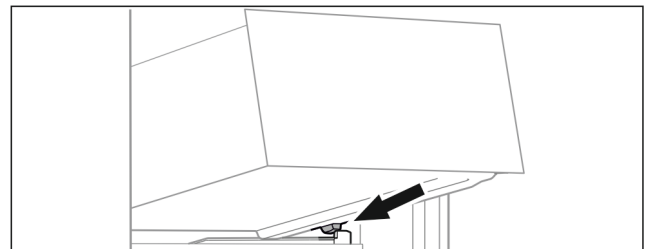

Fig. 15
- ▶ Place drawer on the molded ribs behind the stoppers with the drawer tilted up at the front Fig. 15 ().